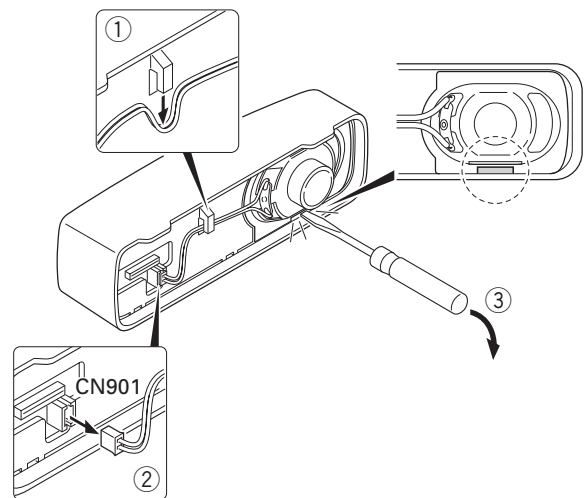

Fig. 2-1
1. Remove the speaker lead from the holder hook. (①)
2. Remove the speaker connector from the display unit connector (CN901). (②)
3. When removing the speaker hardware fixture, insert a flat-head screwdriver at the position shown in Figure 2-1 and tilt it in the direction shown by the arrow. (③)
4. To remove the holder, insert a flat-head screwdriver into tab of the holder and tilt it in the direction shown by the arrow. (④)